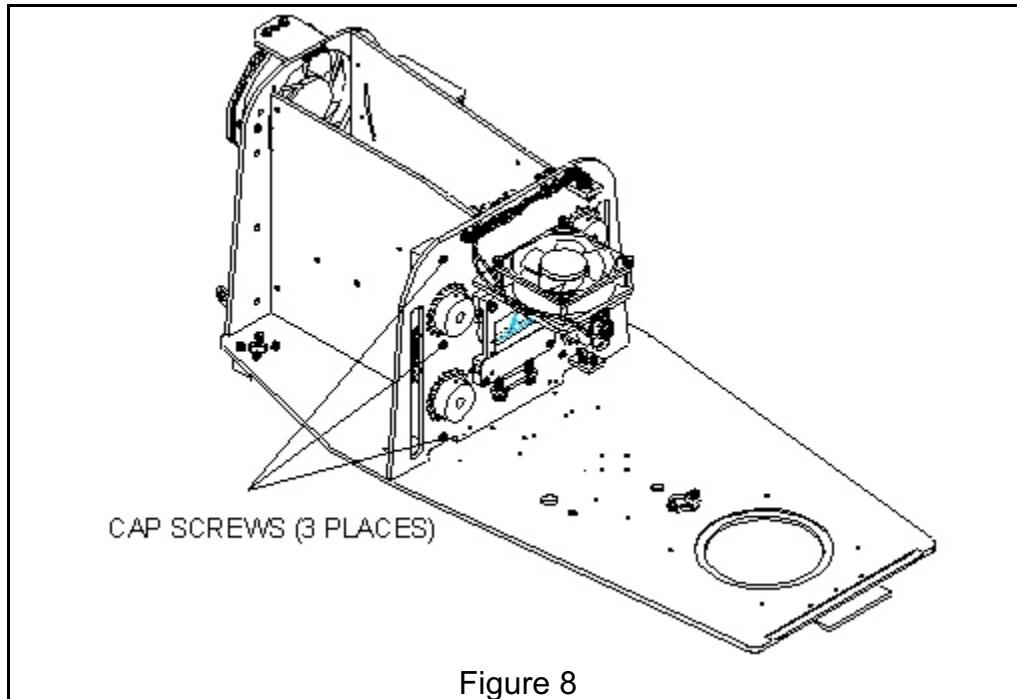

Figure 8
2. Loosen slightly the cap screws (3 places) (Figure 8) securing the bearing block assembly to the pulse generator plate.